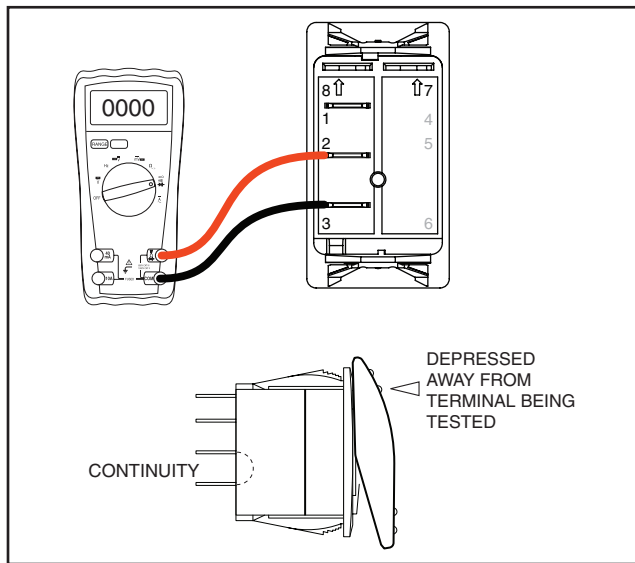

Figure 7-18. – Test 20, Step 6
6. Connect one test lead to the Terminal 2 of SW1 (see Figure 7-18). Connect the other test lead to Terminal 3 of SW1. “Continuity” should be measured.